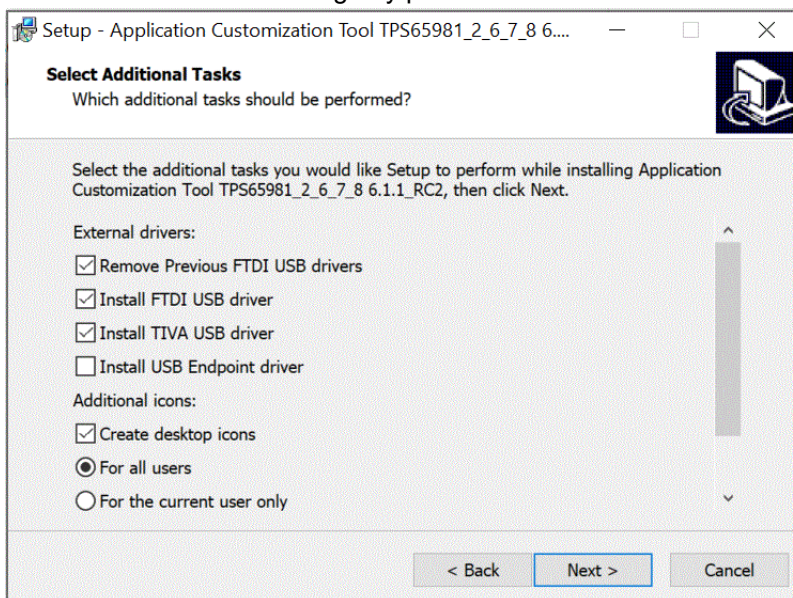

Figure 1-4. Miscellaneous Installation Options
| Figure 1-4. Miscellaneous Installation Options..... | 5 |
- f. Select or deselect the options in Figure 1-4 by checking the corresponding boxes or radio buttons. This step allows the user to install the desired driver depending on which adapter is used to interface with the TPS659xx-EVM. TI recommends uninstalling any previous versions of these drivers before installation.